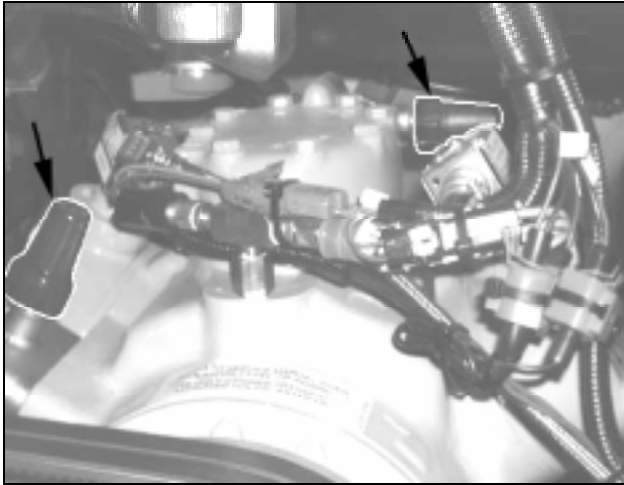
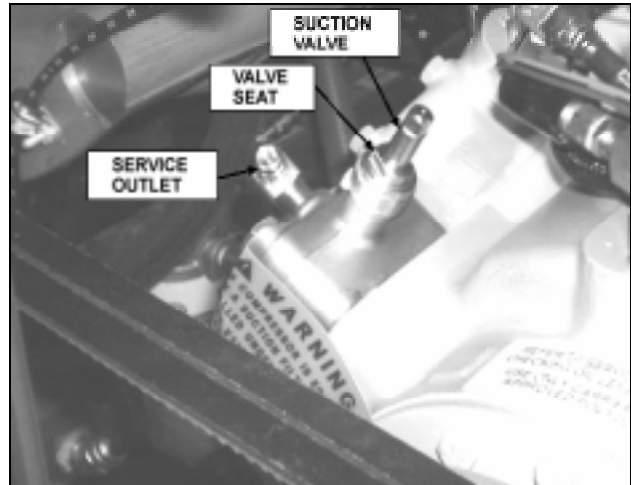
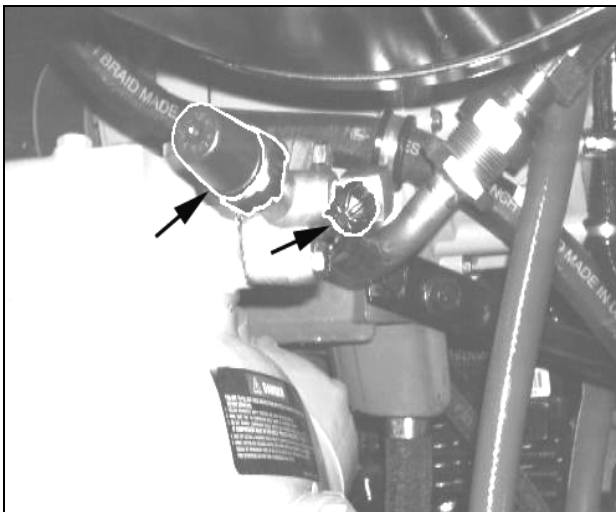
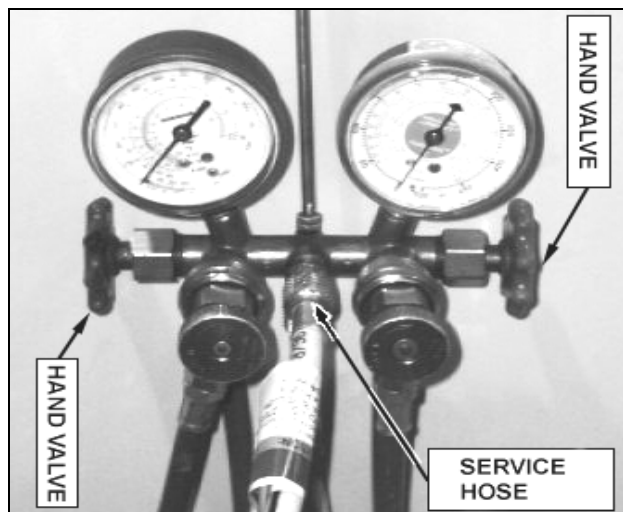

FIGURE 1: SERVICE VALVES (SEEN FROM VEHICLE BACK).
FIGURE 2: SUCTION VALVE (PROTECTIVE CAPS REMOVED).
FIGURE 3: DISCHARGE VALVE (ACCESS FROM RIGHT HAND SIDE).
FIGURE 4: SPECIFIC MANIFOLD GAUGES (R-134-A).
2. Unscrew the four (4) caps which cover the A/C compressor two (2) service valves and two services outlets. (Fig 1) (Fig 2) (Fig 3)
Caution: The manifold gauges two (2) hand valves must be properly closed before installation (Fig 4).
3. Install specific manifold gauges (Fig 4) on each corresponding service outlets (Fig 2) (Fig 3) beside compressor service valves. (suction and discharge).
6. Screw-in the suction valve (Fig. 2) to end of travel (front-seated) and wait for compressor pulley de-clutching which is usually made after a few seconds.
8. Install a gas recovering system on the manifold gauges service hose (Fig 4), open the two (2) hand valves and drain residual gas left in the compressor. Close the manifold gauges two (2) hand valves and disconnect the gas recovering system.
16. Referring to figure #5 and #6, connect the new harness two (2) identified as "C413" plugs on the existing "C413" disconnected plug. Install wire ties for the new wiring harness routing along the existing wiring.
17. Connect a vacuum system on the manifold gages service hose (Fig 4). Open the manifold gauges two (2) hand valves and vacuum the air inside the compressor. Close the two (2) manifold gauges hand valves and disconnect the vacuum system.
18. Verify if the two (2) service valves seats are properly tightened (Fig. 2) and unscrew the suction service valve to end of travel (back seated). Unscrew then the discharge service valve to end of travel (back seated). Disconnect the manifold gauges and reinstall all the four (4) black protective caps on the two (2) service outlets and the two (2) service valves.